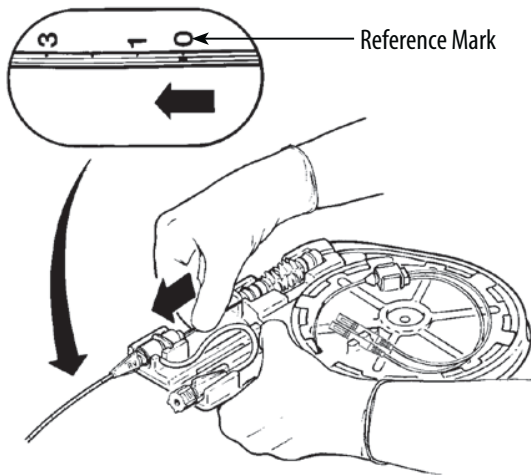

Figure 3. Probe insertion and positioning in catheter
5. Advance the probe until its depth reference mark (black band) is placed at the zero mark on the clear extension tube of the RV lumen (See page 5, Fig. 3). Because of manufacturing tolerances, the tip of the probe is now between the RV port and a point 2 cm proximal to the port. The probe is ready to be advanced into the RV.